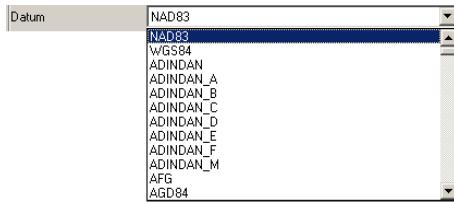

Figure 3-21. Datum List
- Or a Datum for Lat,Lon,H coordinate type (Figure 3-21).